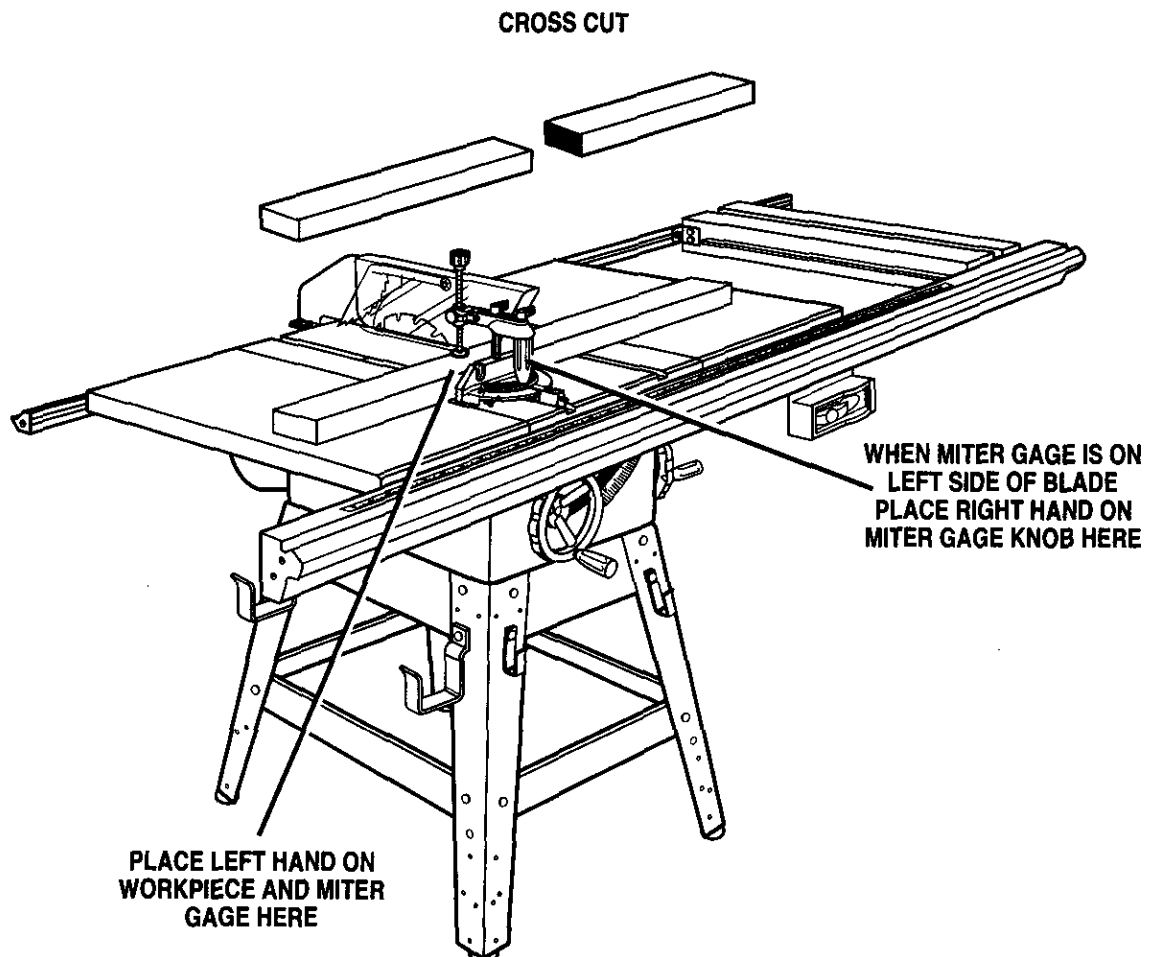

Fig. 57
See Figures 57, 58, 59, and 60.
- Set the miter gage to 0°. See Figure 57. Make sure miter gage knob is securely tightened.
- The miter gage may be used in either of the two grooves in the table. When using left groove, hold workpiece firmly against the miter gage base with your left hand and grip the knob with your right hand. When using right groove, hold workpiece firmly against the miter gage base with your right hand and grip the knob with your left hand. See Figure 57.